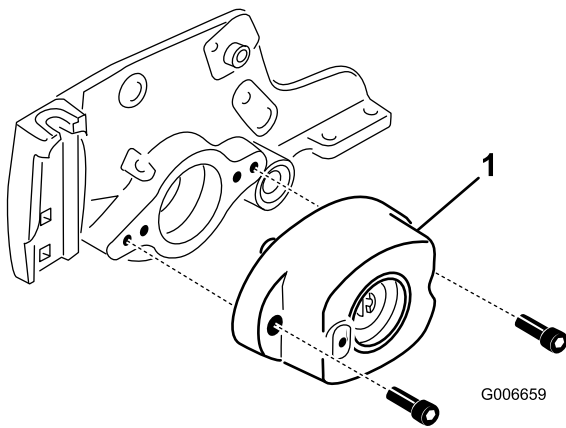

Figure 18
10. Remove the (2) screws securing the bearing housing to the cutting unit side plate (Figure 18).
11. Remove the bearing housing from the side plate (Figure 18).